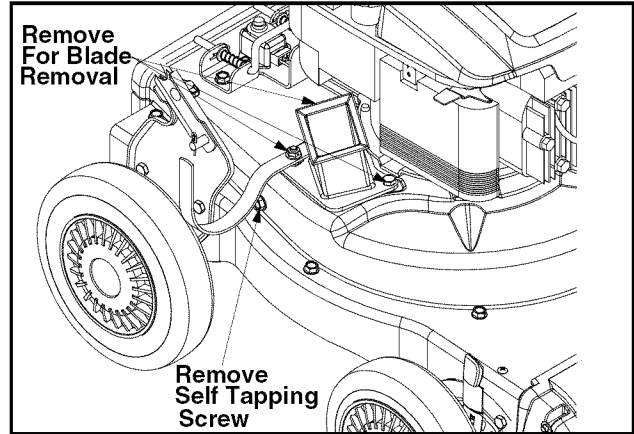

Figure 20
- Remove self tapping screw on right side of unit that attaches to the flail screen. See Figure 20.
- Remove the three bolts holding the hose hanger bracket and chipper chute to the upper housing. See Figure 20.